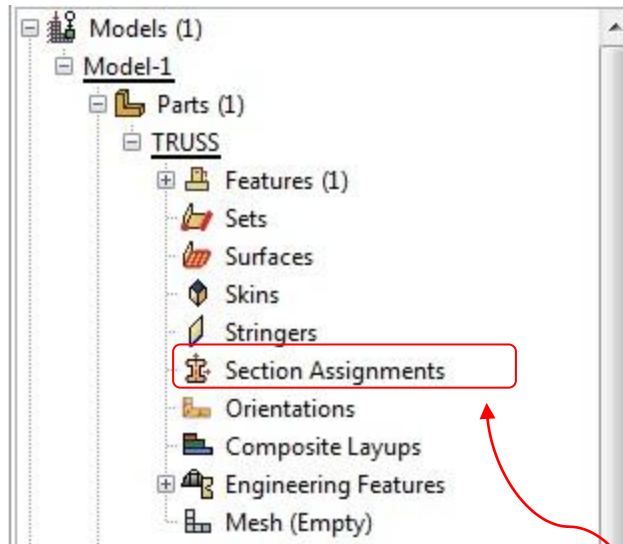

Figure 9. Model Tree Expansion (Parts)
- Now that the truss sections have been created, they can be assigned to the geometry. In the model tree, click the **+** to the left of the Parts icon, this will further expand the model tree's options. Next, click the **+** to the left of the part called **TRUSS**, further expanding the model tree (Figure 9).